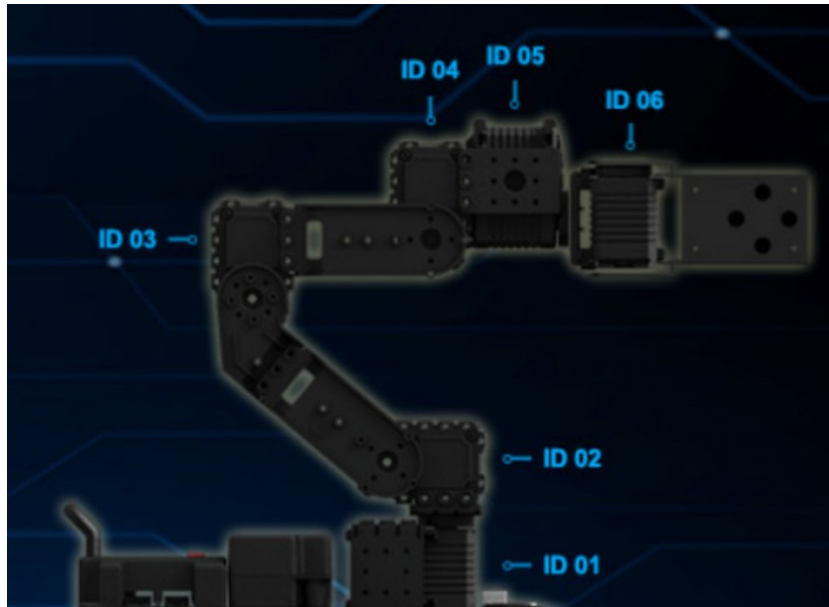

Fig. B1 The definition of joint motor numbers of the robot arm.
- The joint motor numbers is defined by the order from base frame. As shown in Fig. B1, the motor on the base frame is no. 1, the link is connected to joint motor no. 2, and so on. The final joint is the motor of end effect and is no. 6.